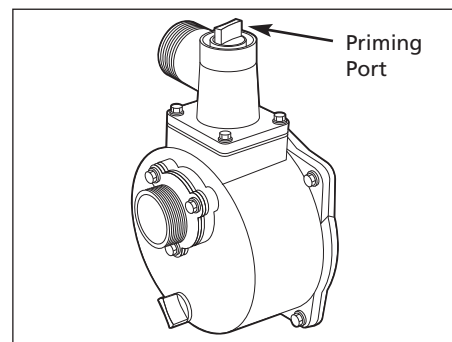

Figure 3
- Add water to the priming port on the pump (See Figure 3). Continue adding water until the water level is approximately 3 inches from the top. Install the priming plug. The water in the pump will create the suction that primes the pump.